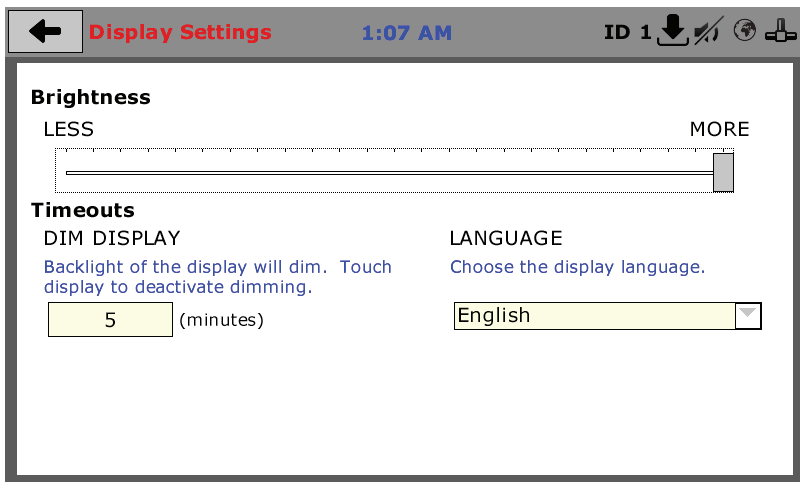

Figure 7
- 2) The Display Settings Screen will appear, as seen in Figure 7. Here, the brightness may be adjusted to a desired level by using the slider on the brightness scale and move it to side of "less" or "more."
- 3) To change the time before the screen auto dims, tap the yellow text box under "DIM DISPLAY" (seen in Figure 7), a keypad will appear, and the desired number of minutes can be entered.